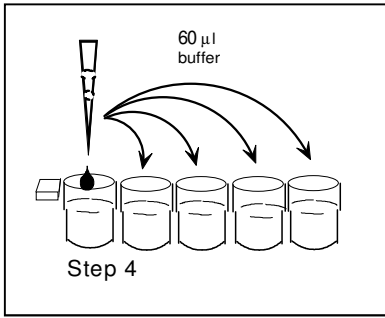

Fig. 1 Buffer procedure
4. Add 60 μ L of buffer to each well. (see fig. 1)